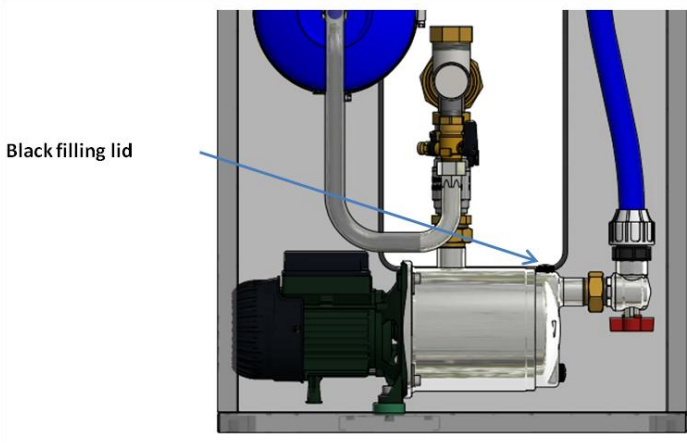

Figure 37: Bleeding the pressure pump
V. Bleed both pressure pumps by opening the black filling lid until water is discharged (see Figure 37).